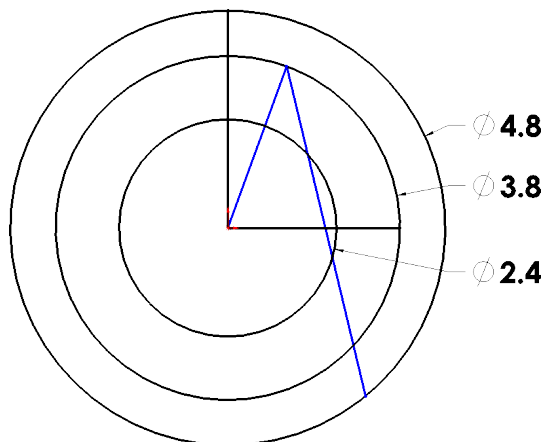

Fig. 3
- Step 1. Click **Line**  (L) on the Sketch toolbar.
- Step 2. Starting from the Origin  sketch **two radii** out to the middle circle, keep **one horizontal** and the other **at angle**. Sketch a vertical radii to outer circle. Sketch a line at angle from endpoint of radii to outer circle, **Fig. 3**. To terminate chain, double click back on the line you have just sketched.
- Step 3. Click **Smart Dimension**  (S) on the Sketch toolbar.
- Step 4. Dimension angles **70°** and **8°**, **Fig. 3**.